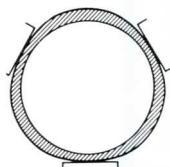

Fig. 3
5. Holtest detects the distortion in thin, ring-like workpieces that have been machined while subject to excessive chuching forces (See Fig. 3). The perfectly machined ID in such a piece will lose its trueness when the piece is dismounted and springs back to its original shape (See Fig. 4). A two-point-contact gage cannot always find such distortion, since ID 1, 2 and 3 may be of equal length. Holtest, however, with its three fixed anvils will reveal the distortion, if it is measurable.